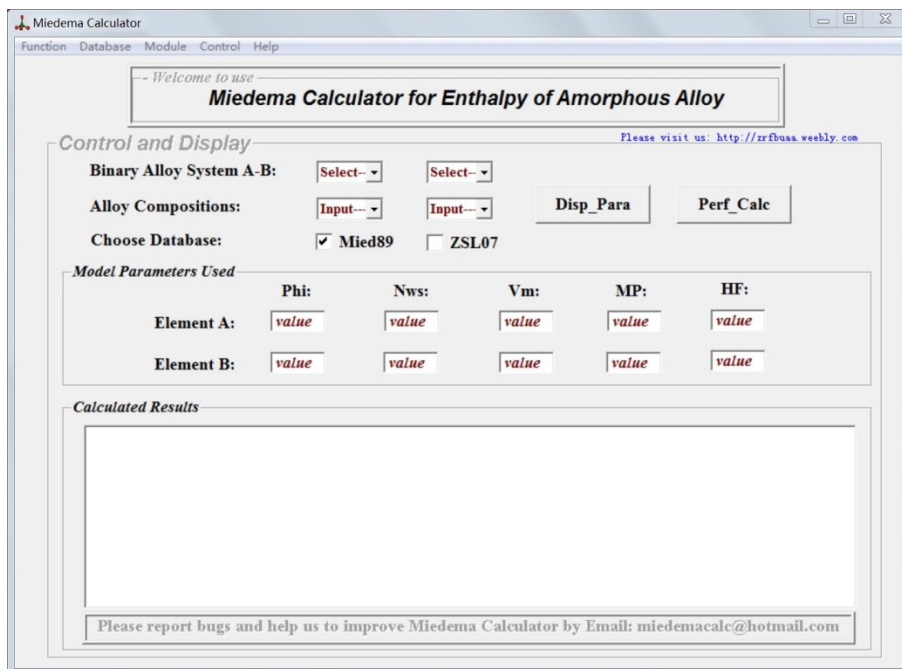

Fig. 4.4. The module interface for formation enthalpies of amorphous alloys.
- 2) In menu, choose "Module"-> "Formation enthalpy of amorphous alloy" to launch the module interface (see Fig. 4.4);